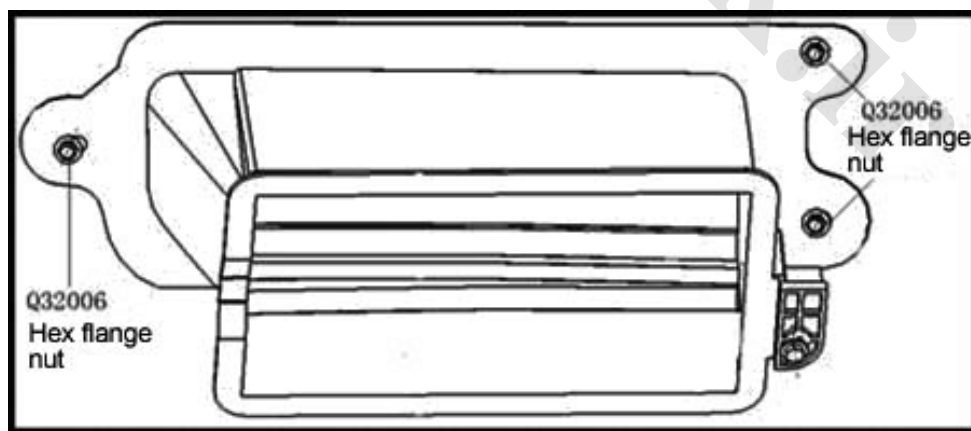
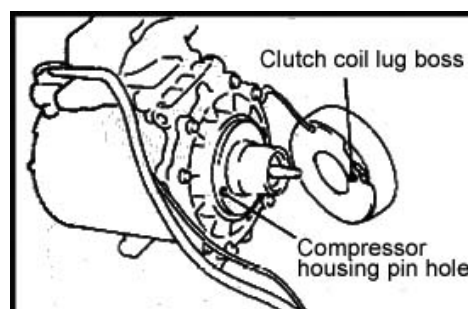

Figure 6-20
Figure 6-30
(4) Remove the lower shield of dashboard (please refer to the disassemble method of dashboard)
(5) Disassemble the air duct and wire harness from the top and the bottom of air conditioner housing.
(6) Disassemble steering wheel and steering column (please refer to the disassemble methods of steering wheel and steering column)
(7) Disassemble the lower shield of dashboard and air conditioning controller (please refer to the disassemble methods of the lower shield of dashboard and air conditioning controller)
(8) Loosen the screw connected to the hollow beam mounting.
(9) Disassemble the hollow beam (please refer to the disassemble method of hollow beam)
(10) Disassemble 3 nuts in Figure 6-20.
Assembly essentials for clutch coil: see Figure 6-20 and Figure 6-30